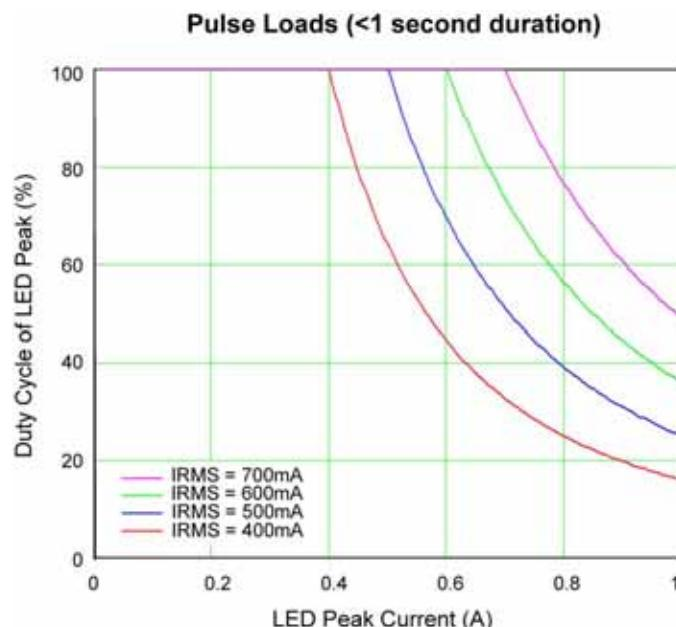

Figure 9. Duty Cycle vs. Peak Current for Fixed RMS Current
The graph in Figure 9 shows the peak LED current which can be pulsed at a given duty cycle (DC) to stay within SOA limits of 400mA to 700mA.
- Now looking at the curve in Figure 9, using the next lower value of 500mA RMS current, one can see that the 850mA peak can be driven at a duty cycle of  $\sim 33\%$  (or 1 second out of every 3 seconds). That is well within our target of 300ms.